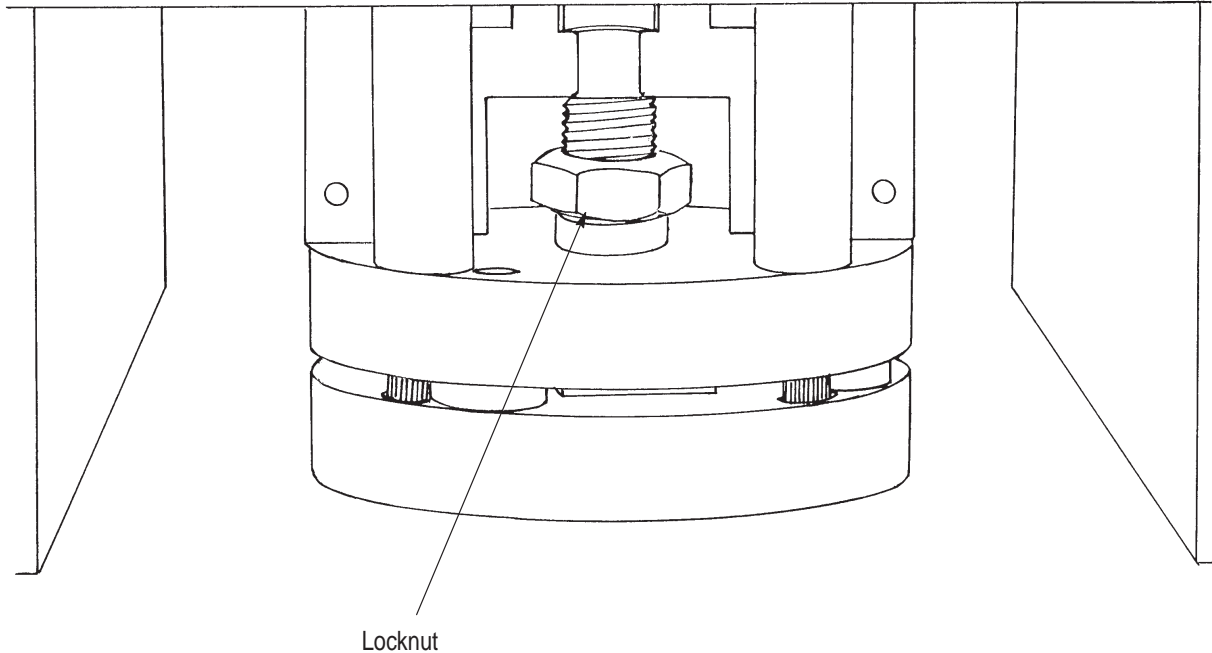

Figure 17
7.2. Box Support Adjustment (Figure 17)